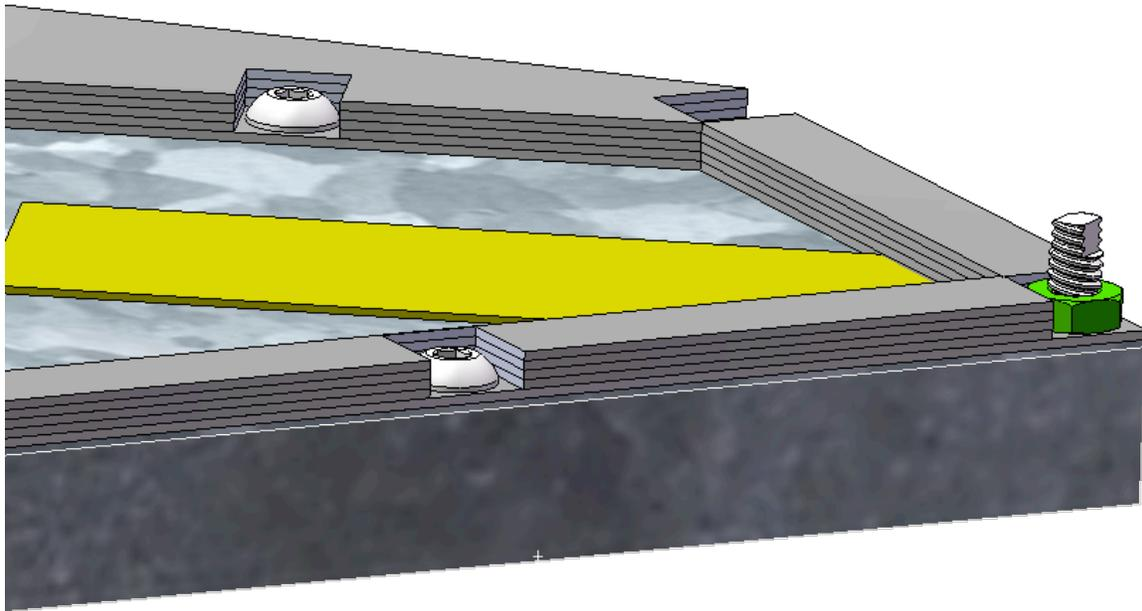

Figure 3-14: 1/4"-20 nut placement.
- 11) Screw a $\frac{1}{4}$ "-20 nut down on top of the five threaded links from step 10) tightly. See Figure 3-14.